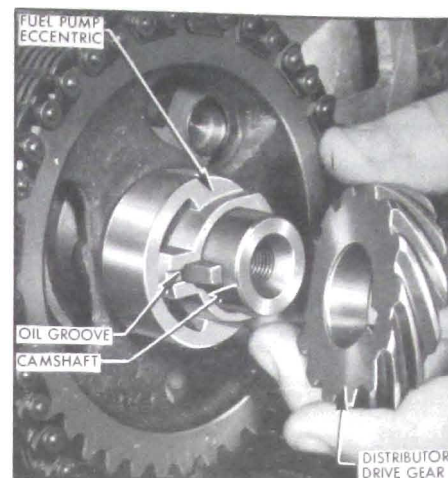

Figure 2-48—Fuel Pump Eccentric and Distributor Drive Gear Installation
5. Slide fuel pump eccentric on camshaft and Woodruff key with oil groove forward. See Figure 2-48.
6. Install distributor drive gear. See Figure 2-48.